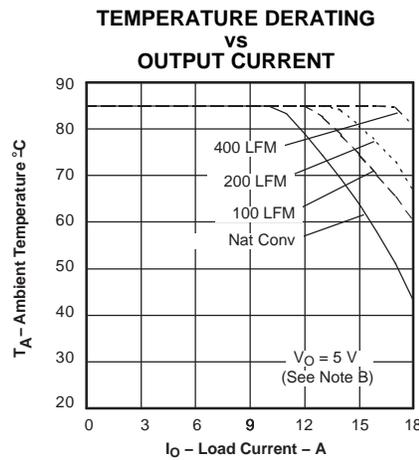
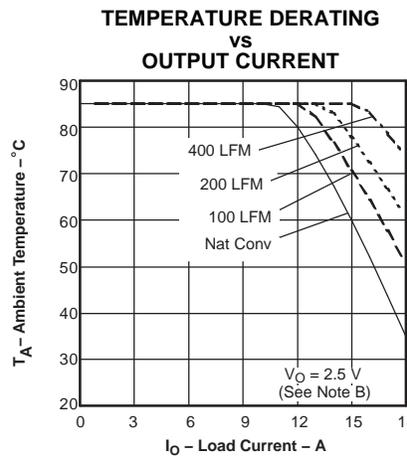

Figure 4.
Figure 5.
- (2) Note B: The temperature derating curves represent the conditions at which internal components are at or below the manufacturer's maximum operating temperatures. Derating limits apply to modules soldered directly to a 4 inch x 4 inch double-sided PCB with 1oz. copper. For surface mount products (AS and AZ suffix), multiple vias (plated through holes) are required to add thermal paths around the power pins. Please refer to the mechanical specification for more information. Applies to Figure 4, Figure 5 and Figure 6.